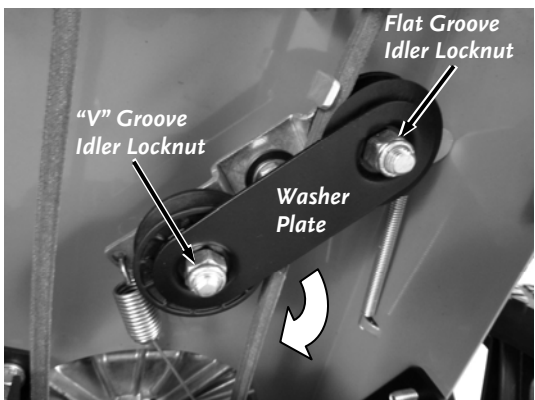

Figure 30
5. Remove the Locknut that secures the Washer Plate to the flat groove Idler Pulley using a 9/16" Wrench. Loosen the other Locknut to the V groove Idler Pulley using a 9/16" Wrench just enough so the Washer Plate can be rotated out of the way (**Figure 30**).
15. Rotate the Washer Plate onto the Flat Groove Idler Stud and install the Locknut using a 9/16" Wrench (**Figure 30**). Tighten the "V" Groove Idler Locknut using a 9/16" Wrench.